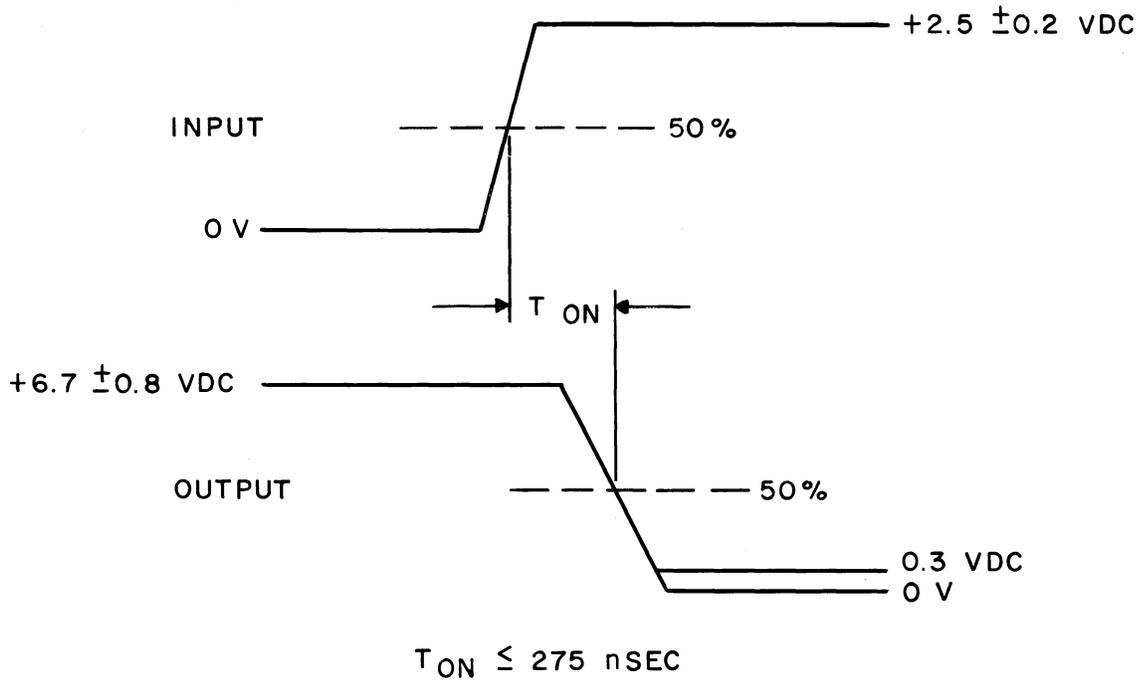

Fig. 2 - (NOR Gate Test)
- (2) Set the frequency of the square-wave generator between 40 and 50 cps.
- (3) Set the DPDT switch to position 1.
- (4) Set the GATE and TEST FUNCTION selector to position 1.
- (5) Set the EXT SYNC TRIGGER to the (+) positive position.
- (6) Rotate the GATE selector through positions 1 to 10. At each position the input and output step shall be as specified in Fig. 2.
- (7) Set the TEST FUNCTION selector to position 2. Rotate the GATE selector through positions 1 to 8. Observe output as in (6). Time base measurements need not be made.
- (8) Set the TEST FUNCTION selector to position 3. Rotate the GATE selector